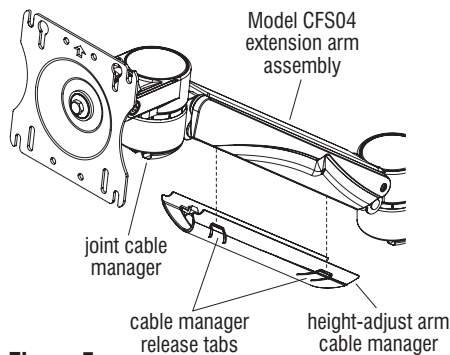

Figure 5
1. To remove the height-adjust arm cable manager, pinch the two release tabs on the cable manager located on the underside of the Model CFS04 extension arm assembly (Figure 5).